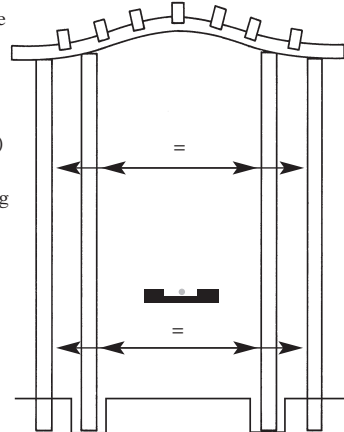

Fig 3.
6. Ensure the arch is equally spaced, level and vertical (see Fig.3)